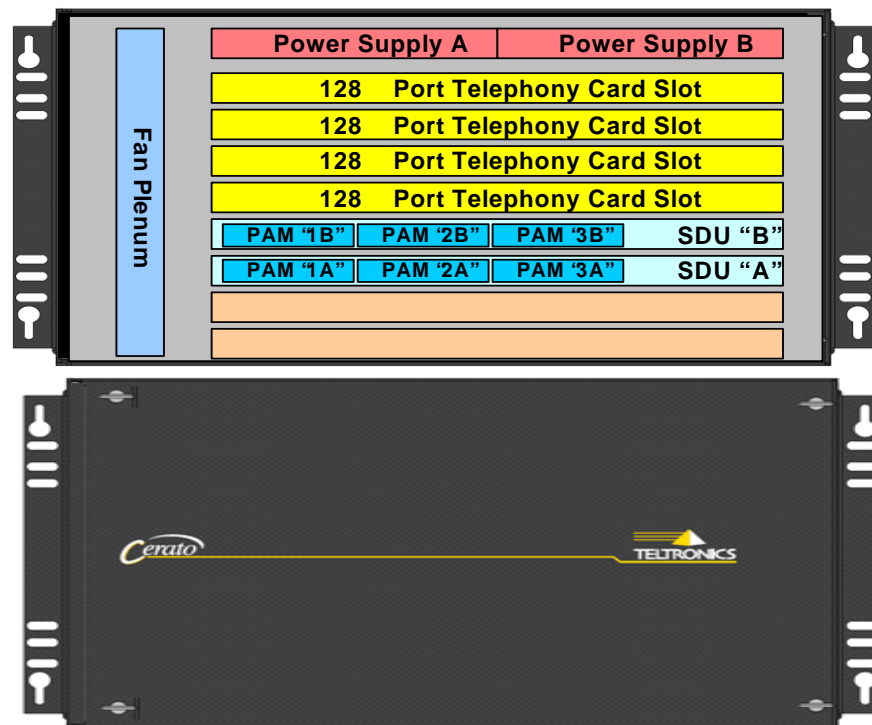

Figure 8. HDX shelf, front View
- HDX The HDX shelf, as illustrated in Figure 8, is housed in Universal EIA RS310-D 19-inch enclosed or open frame racks. The HDX shelf includes four 128 port card slots. The HDX has two power slots for redundant power supply and two SDU slots for redundant telephony systems. Universal port architecture allows any combination of up to four 128, 64, 32, 16 or 8 port cards to be installed in the four available card slots. The HDX backplane interfaces to the common control through two serial S-link interfaces that connect to an SDU. The SDU provides the transport of Pulse Code Modulation (PCM) digital data as well as signaling, alarm and configuration data. Each SDU can provide communication for a total of 512 PCM ports. Attached to the backplane are access adapter boards with RJ48C connectors for up to sixteen T1 or E1 connections.